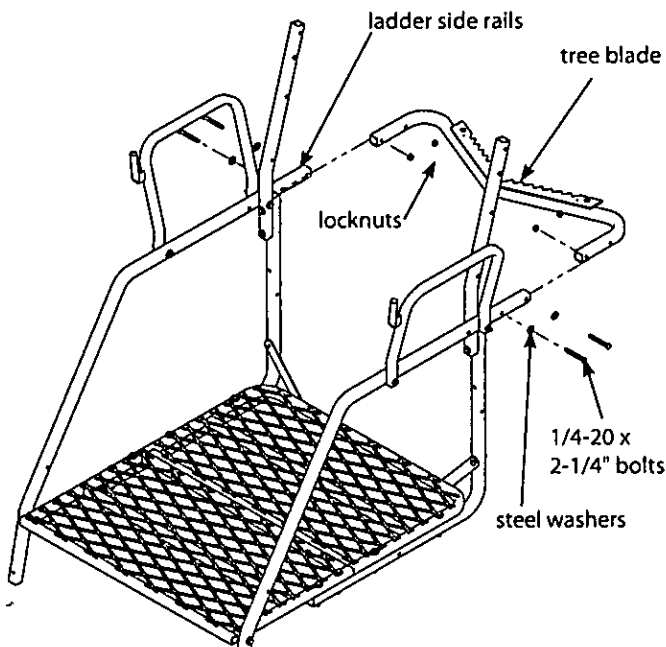

Figure 4
Attach the tree blade (410090) to the ladder side rails using (4) provided 1/4-20 x 2-1/4" bolts, locknuts and steel washers. **SEE FIGURE 4.**